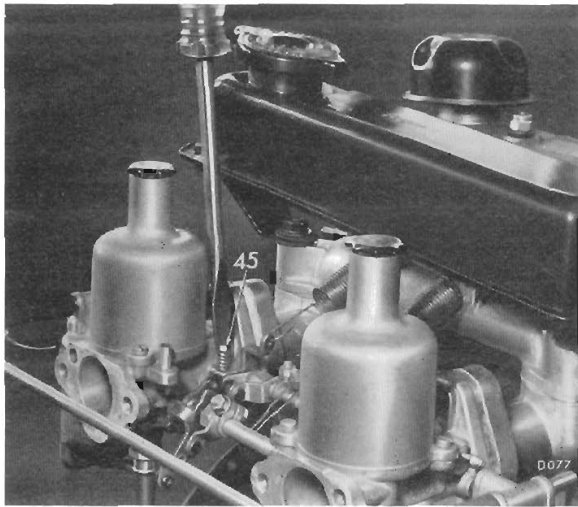
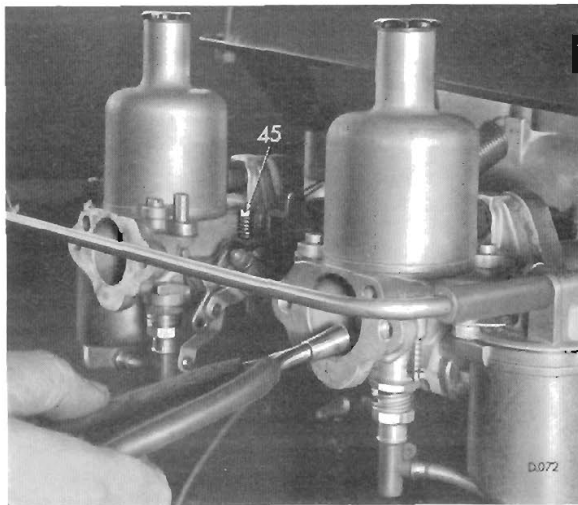

Fig. 20. Adjusting throttle stop screws
Fig. 21. Listening to volume of hiss at carburettor intakes
3. Start the engine and adjust the throttle adjusting screws (Fig. 20) to give the desired idling speed (approx. 550 r.p.m.) by moving each throttle adjusting screw an equal amount. Using a length of 0.3" (3 mm.) approx. bore tubing, listen to the hiss in the intake (Fig. 21) and adjust the throttle adjusting screws until the intensity of the hiss is similar in both intakes. This will synchronize the throttles.